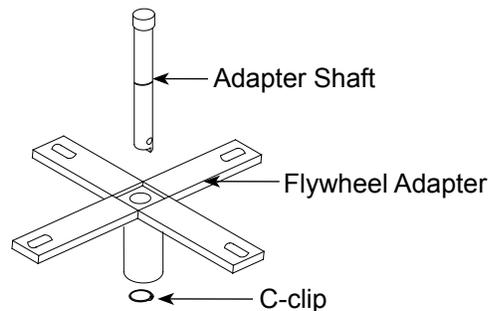

Figure 3 - Flywheel adapter assembly components
**Note:** Flywheel adapter assembly includes flywheel adapter, a shorter adapter shaft, and a C-clip (Fig. 3). Use the shorter adapter shaft on flywheel adapter only.